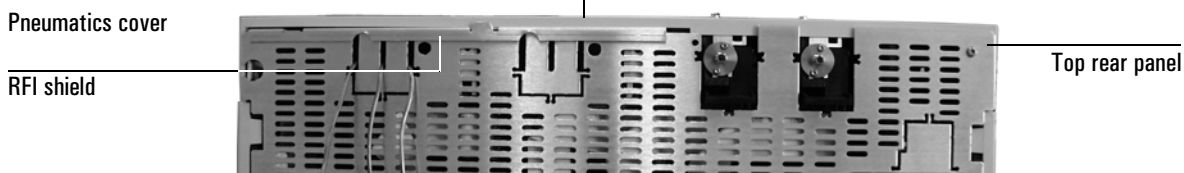

Figure 2 Back view of HP 6890
1. Remove the pneumatics cover and the RFI shield under it. See Figure 2.